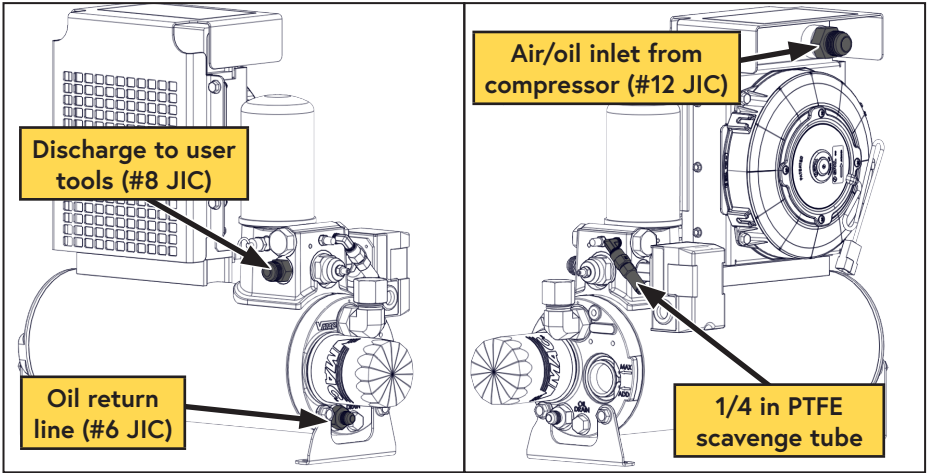

Figure 29 — WHASP Tank connections
- Connect the 90° fitting on the 3/4 in hose to the #12 JIC fitting (air/oil inlet) on the cooler above the fan (Figure 29).
- Connect the 90° fitting on the 3/8 in hose to the #6 JIC fitting (oil return fitting) beneath the oil filter on the tank (Figure 29).
- Connect the 1/4 in PTFE tube to the 1/4 in push-to-connect (oil scavenge) fitting near the coalescing filter (Figure 29).